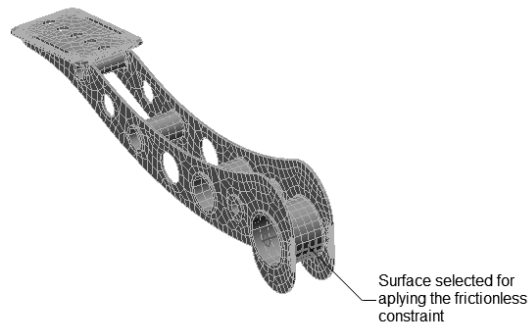

Figure 8-85 Surface selected for applying the frictionless constraint
3. Select the bottom surface of the outer cylinder by clicking the left mouse button, refer to Figure 8-85.